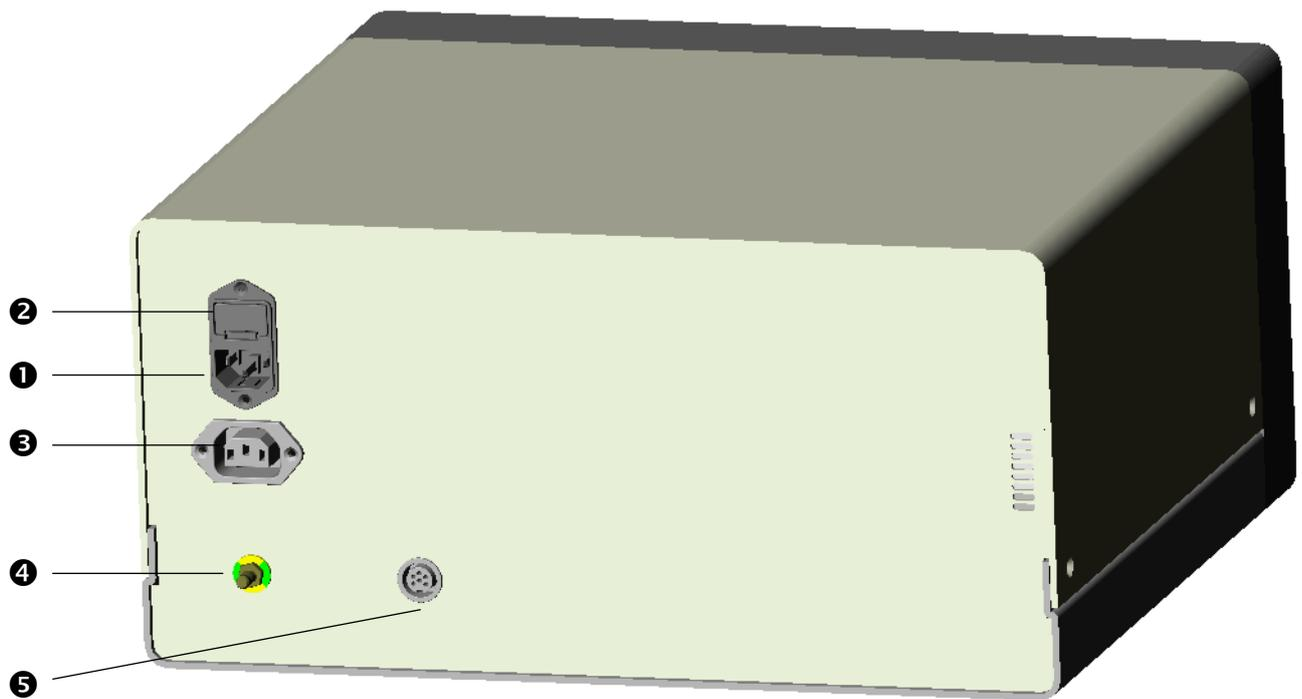

Fig. 3. AtmoSafe Rear view
This inlet connector for non-heating apparatus is plugged into the auxiliary mains socket (⚡, Fig. 3) on the rear of the AtmoSafe. The AtmoSafe is now controlling the power input of the surgical device by means of the internal ISA device (Internal Synchronous Activation) and, in this way, effects auto activation. Auto activation means that the evacuation mode is switched on as soon as the thermal surgical function of the surgical device (Cut, coag,...) is activated.
Only compatible devices may be connected to the auxiliary mains socket (⚡, Fig. 3).
- Please check whether the mains voltage data shown on the fuse drawer (⚡, Fig. 3, p. 17) of the device agree with the values of the mains supply network, and then connect the AtmoSafe to the supply network.